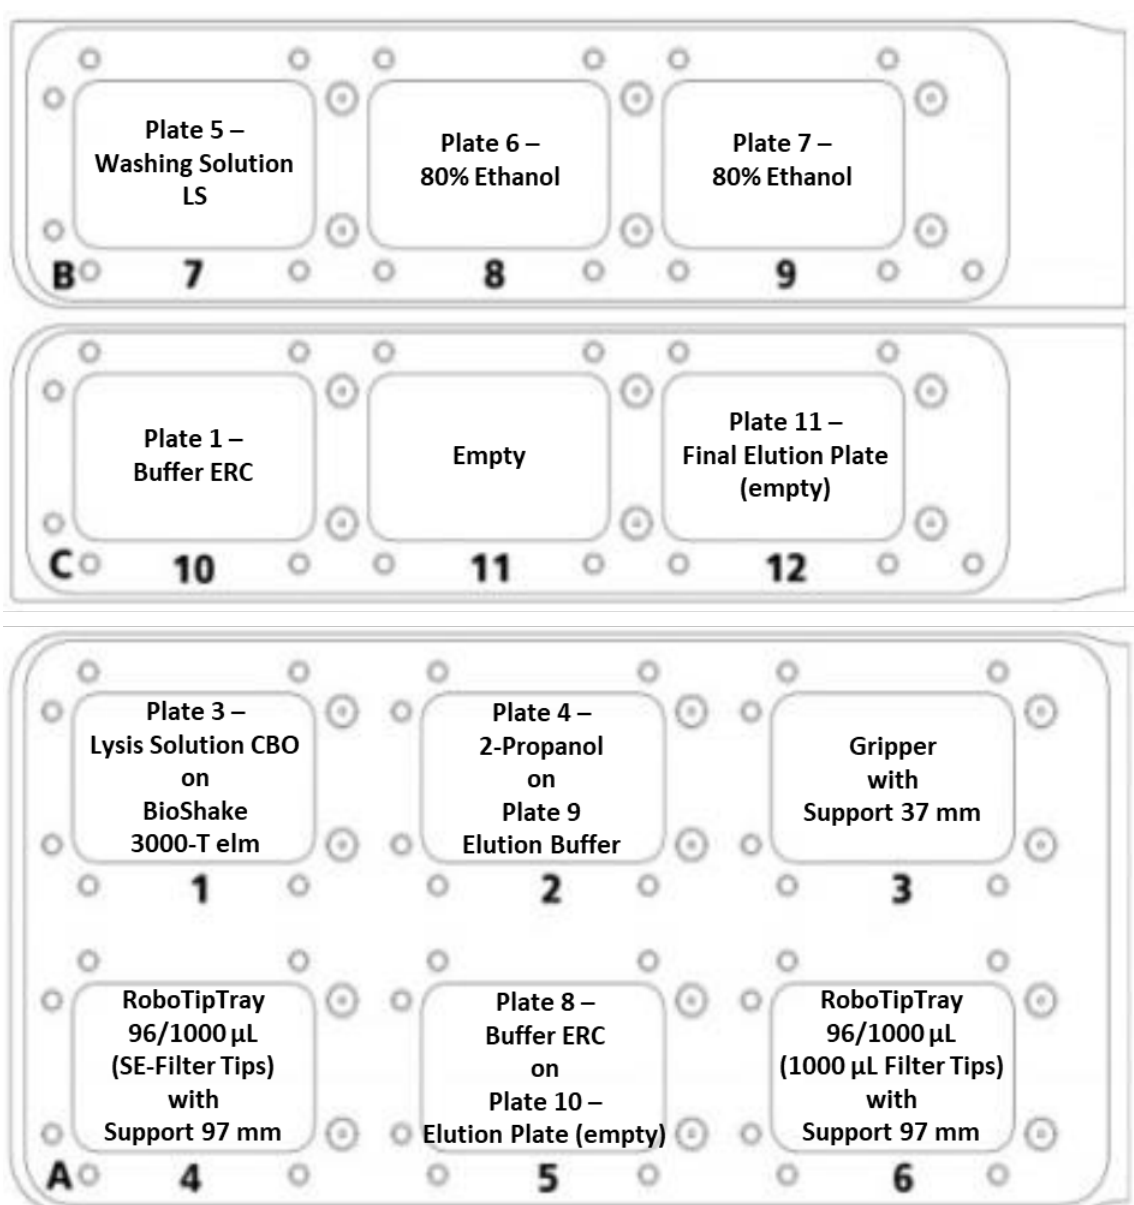

Figure 12: Deck layout for the extraction of 200–500 µL sample material.
1. Load all prepared plates and accessories onto CyBio FeliX decks according to **Figure 12**. As a Final Elution Plate (**position 12**) multiple options are possible: